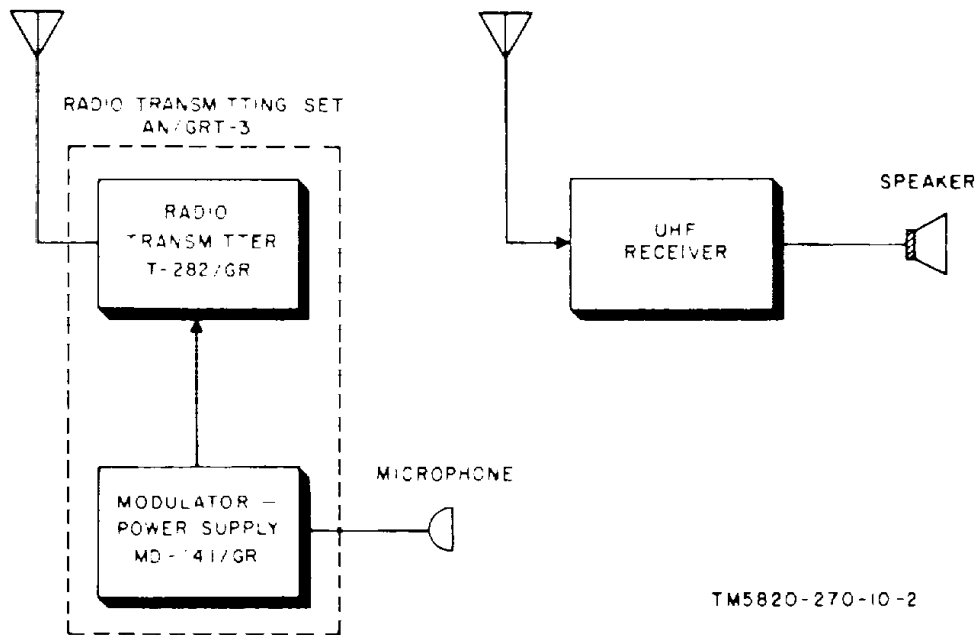

Figure 1-2. Typical application of Radio Transmitting Set AN GRT-3 used in UHF communications system.
b. *Use.* The AN/GRT-3 is normally used as the transmitting equipment of a UHF communications system used in control towers or airway stations. A typical application of the AN GRT-3 used in a UHF communications system is shown in figure 1-2.